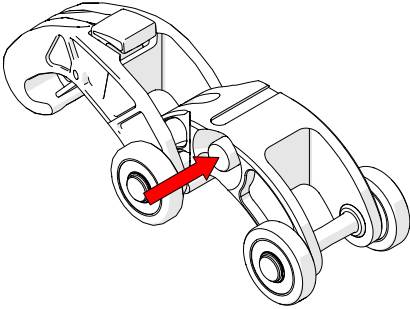

Fig. 72 - Press red button
1. Press the button on the side of the Dovetail QuickLink (*Fig. 72*).